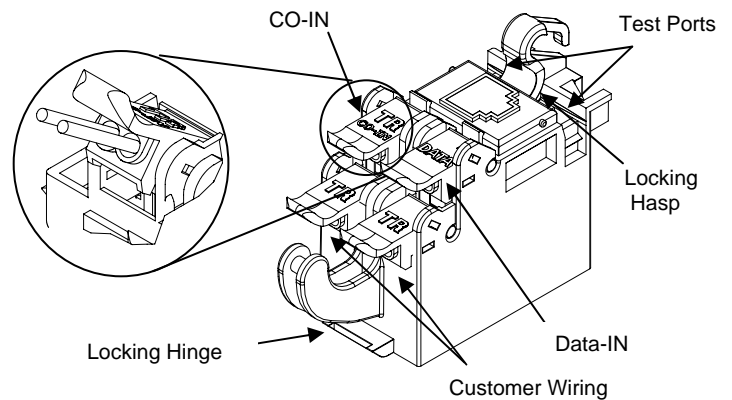

Figure 2
2. Insert wires into wire guides at the same time until they bottom out. While holding wires in wire guides, terminate rocker with thumb. Lower rocker all the way (See Figure 2).
3. Terminate Central Office service lines to CO-IN (See Figure 2).
5. Two telephone voice (POTS) pairs and one DSL line (DATA) can be connected to a single Splitter Module (See Figure 2).